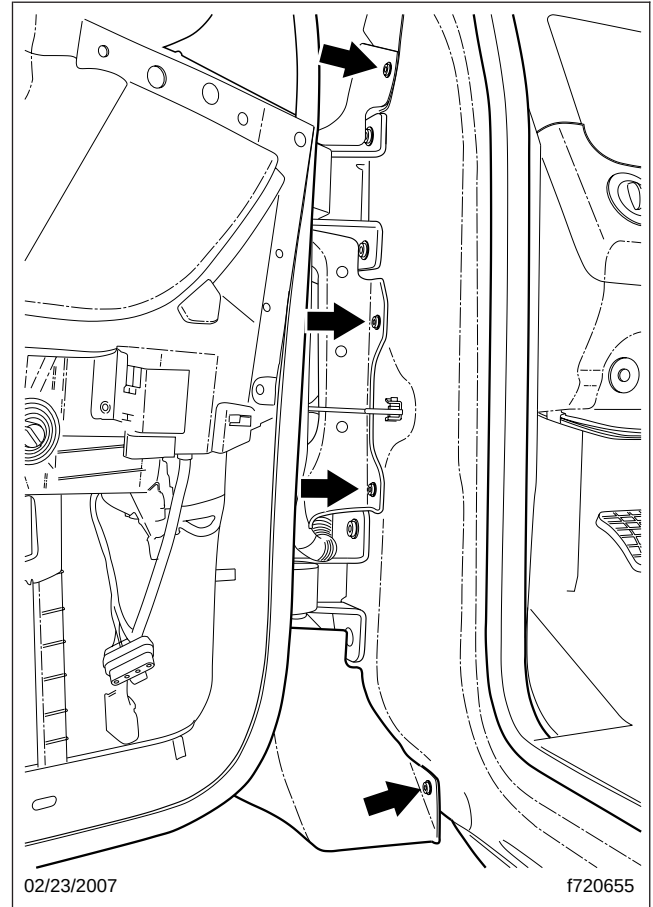

Fig. 2, Cowl Side Panel Rear Fasteners
- 6.3 Remove the four Torx screws and washers that attach the cowl side panel to the door frame; see Fig. 2.